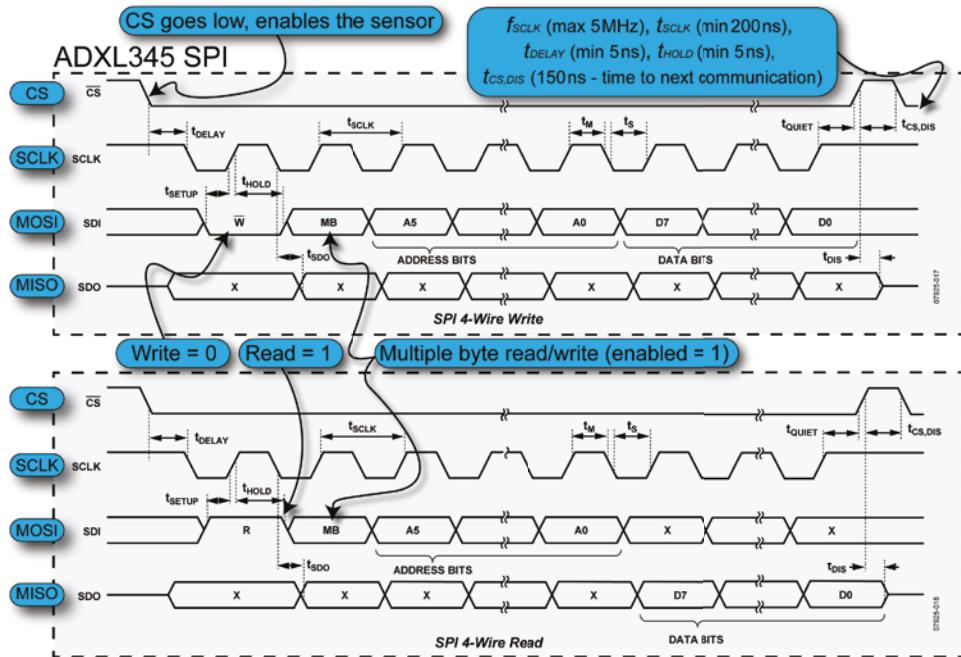
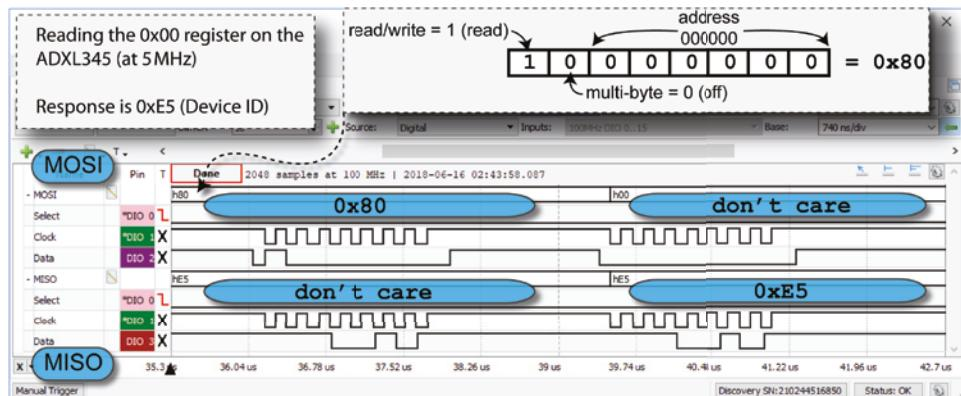

Figure 8-11: The ADXL345 SPI communication timing chart (from the ADXL345 datasheet)
Figure 8-13: Reading the 0x00 register on the ADXL345 using SPI
SPI is not a formal standard with a standards body controlling its implementation, and therefore it is vital that you study the datasheet for the device that you want to attach to your Beagle board. In particular, the SPI communication timing diagram should be studied in detail. This is presented for the ADXL345 in Figure 8-11.
Note the following important points, which can be observed directly from the datasheet figure, as summarized in Figure 8-11:
- As shown in Figure 8-11, the SCLK line is high at rest, and data is transferred on the rising edge of the clock signal. Therefore, the ADXL345 device must be used in communications mode 3 (refer to Table 8-3).
Once again, a logic analyzer is useful for debugging problems that can occur with SPI bus communication. For example, Figure 8-13 captures a read operation at address 0x00. You may notice that the value that was sent was 0x80 and not 0x00. This is because (as detailed in Figure 8-11) the leading bit must be a 1 to read and a 0 to write from/to an address. Sending 0x00 is a write request to address 0x00 (which is not possible), and sending 0x80 (i.e., 10000000 + 00000000) is a request to read the value at address 0x00. The second bit is 0 in both cases, thus disabling multiple-byte read functionality for this example.